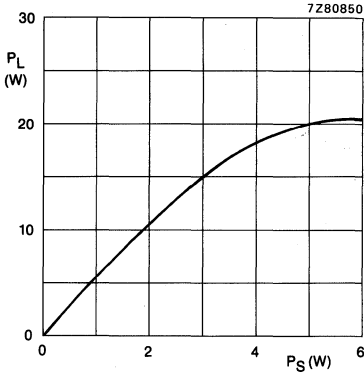

Fig. 7 Load power versus source power.
**Conditions for Figs 7 and 8:**